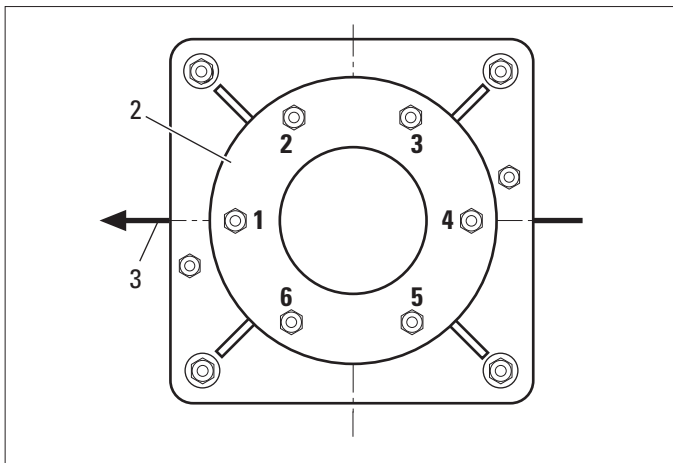

Fig. 2 (View to ceiling)
In order to facilitate mounting of the Leica Mini Mount, the fastening screws on the bottom of the lower bracket flange (2) should be numbered. The number 1 must point in the direction of the main axis (3), the number 4 lies directly opposite (Fig. 2).